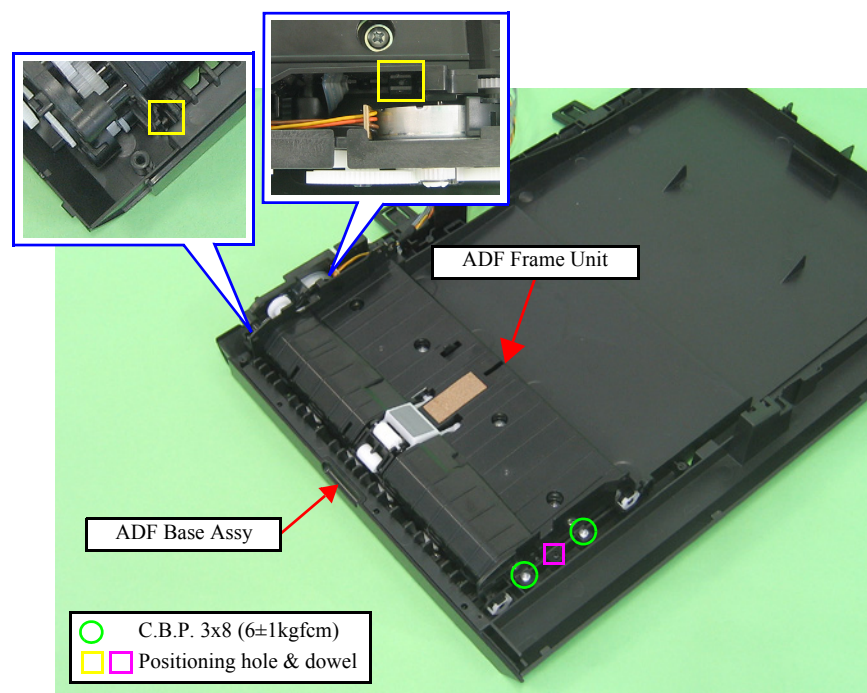

Figure 4-144. Removing the ADF Frame Unit (2)
- When installing the ADF Frame Unit, align the positioning holes (x3) of the ADF Frame Unit and ADF Base Assy with the dowels (x3) as shown in Fig. 4-144.